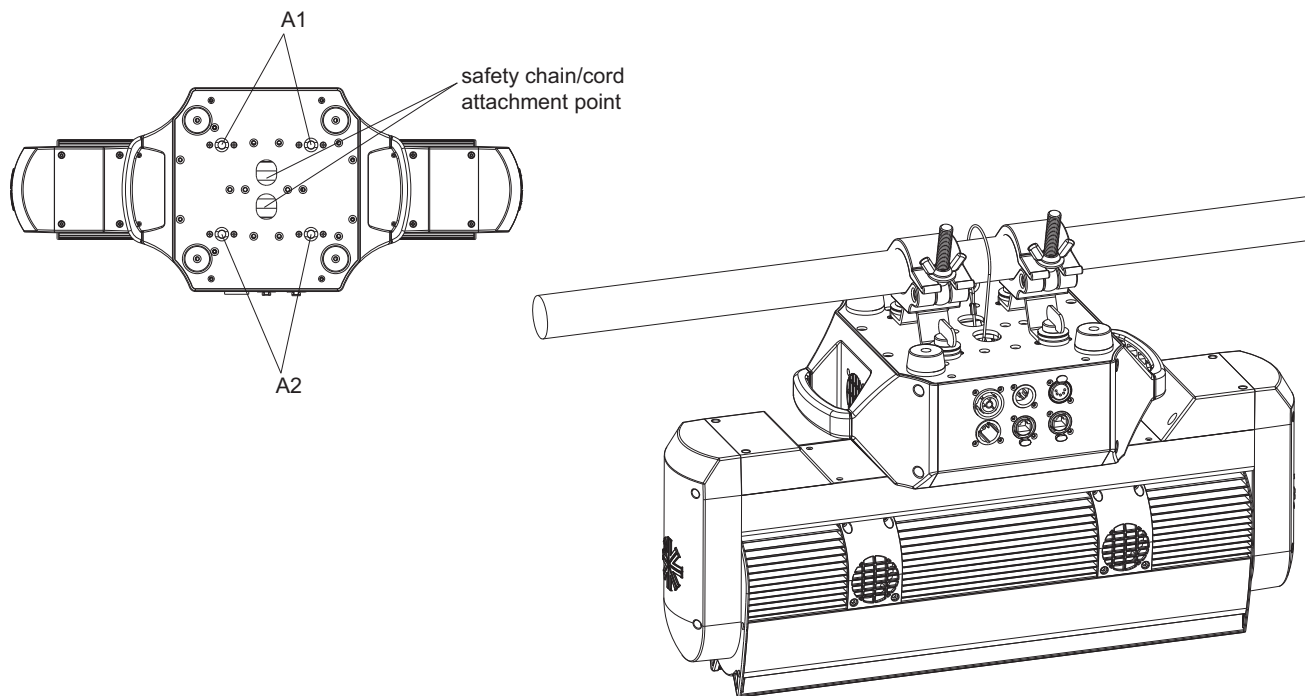

Figure 5: Installing Brackets on Luminaire Enclosure
- Step 3. Attach safety cable by looping it at least once around safety cable anchor point rod (refer to **Figure 5**).